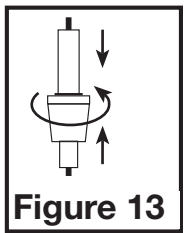

Figure 13
- Follow the steps in **SECTION 5 Wiring** to gain access to the fuse holder located inside the wire compartment. To replace the fuse, squeeze the top and bottom of the fuse holder together while twisting the larger piece in a direction away from the tabs (**Figure 13**). Replace fuse only with 0.5 Amp, 250VAC, 5 x 20mm, Fast Acting fuse. Reconnect the fuse holder by lining up the top and bottom section and squeeze together while twisting until they are locked in place. Carefully tuck back into the wire compartment and reinstall the wire compartment cover.